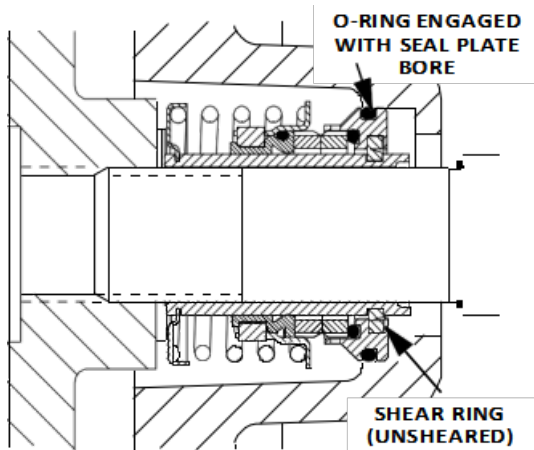

Figure E-5. Seal Partially Installed
Clean and inspect the impeller as described in Impeller Installation and Adjustment. Install the full set of impeller shims (39) provided with the seal and screw the impeller onto the shaft until it is seated against the seal (see **Figure E-5**).